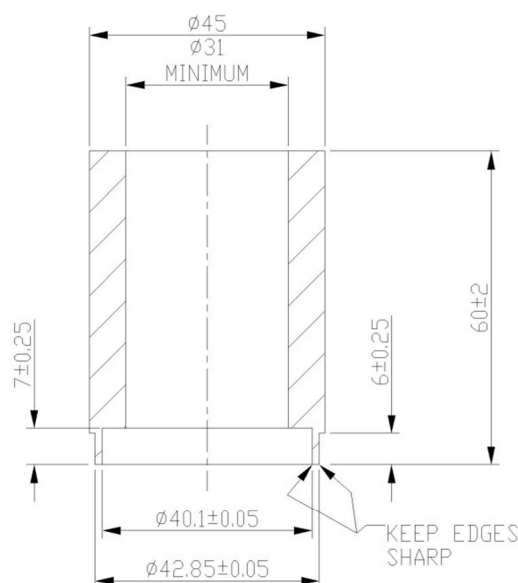
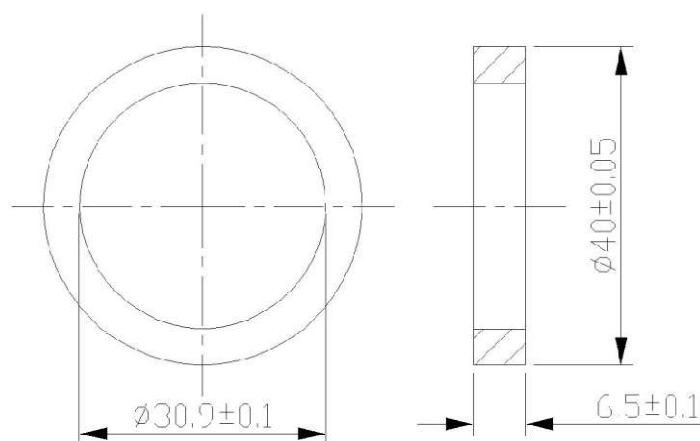

Figure 23 - Sleeve dimension
Figure 26 - L Cup insertion tool
To remove the seal seat from the back of the rotor a special tool is required. This tool needs to be manufactured to the dimensions shown in Figure 23.
- Fit the Quad ring (83) to the seal face and lubricate the bore in the seal housings with a suitable lubricant compatible with the pumped fluid and process. Ensure the Quad ring does not roll during fitting.
- To fit the seat to the rotor, first fit a new cup rubber (83) to the seal face. Ensure the seal face is the correct way round, i.e. the smooth working face exposed.
- Use a soft sleeve made from Nylon, as shown in Figure 23, and fit it into the end of the tool as shown in Figure 26. Alternatively use your fingers to do this in order to avoid damage to the seal face.